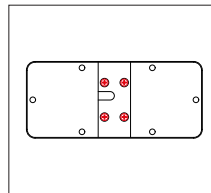
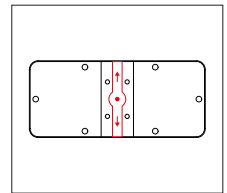

Fig. 3: Base plate
Fig. 4: Cable routing
1. Decide which direction you want to route the cable out of the valve block. By removing the base plate (Fig. 3), the cable can be positioned and secured accordingly (Fig. 4).